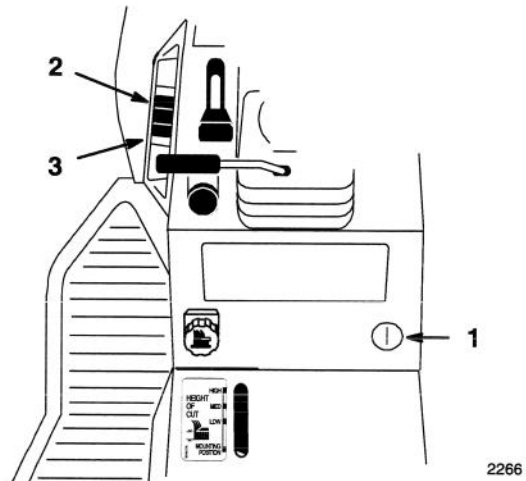

Figure 16
The attachment power lift (optional on some models) (Fig. 16) is used to raise and lower attachments.
1. Turn key to the "ON" or "RUN" position (Fig. 16).
2. Push the lift switch in the "UP" direction to raise the attachment lift (Fig. 16). This will lift and hold the attachment in the up, or raised position.
2. Push the lift switch in the "DOWN" direction to lower the attachment lift (Fig. 16). This will lower the attachment lift.